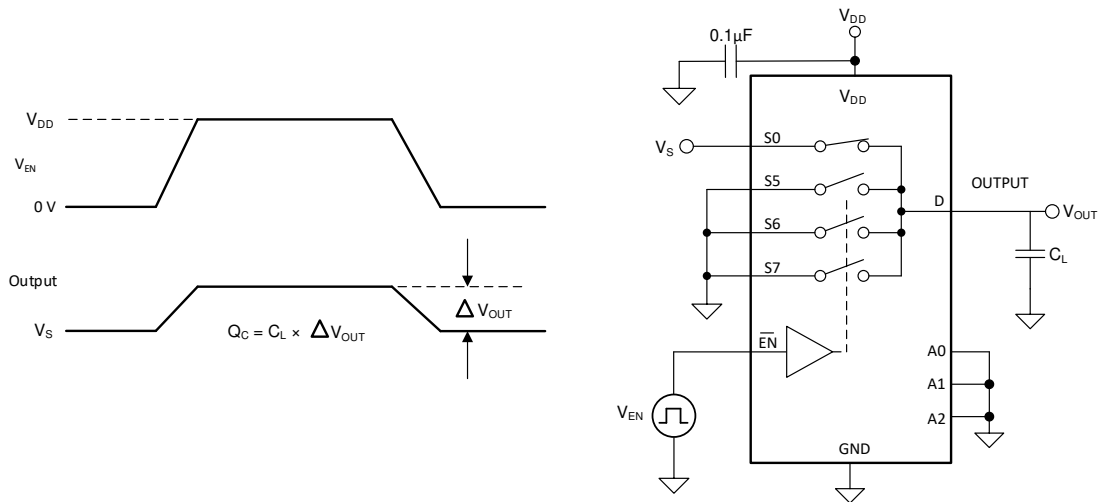

Figure 7-7. Charge-Injection Measurement Setup
The TMUX1308A and TMUX1309A device have a transmission-gate topology. Any mismatch in capacitance between the NMOS and PMOS transistors results in a charge injected into the drain or source during the falling or rising edge of the gate signal. The amount of charge injected into the source or drain of the device is known as charge injection, and is denoted by the symbol  $Q_C$ . Figure 7-7 shows the setup used to measure charge injection from source (Sx) to drain (D).